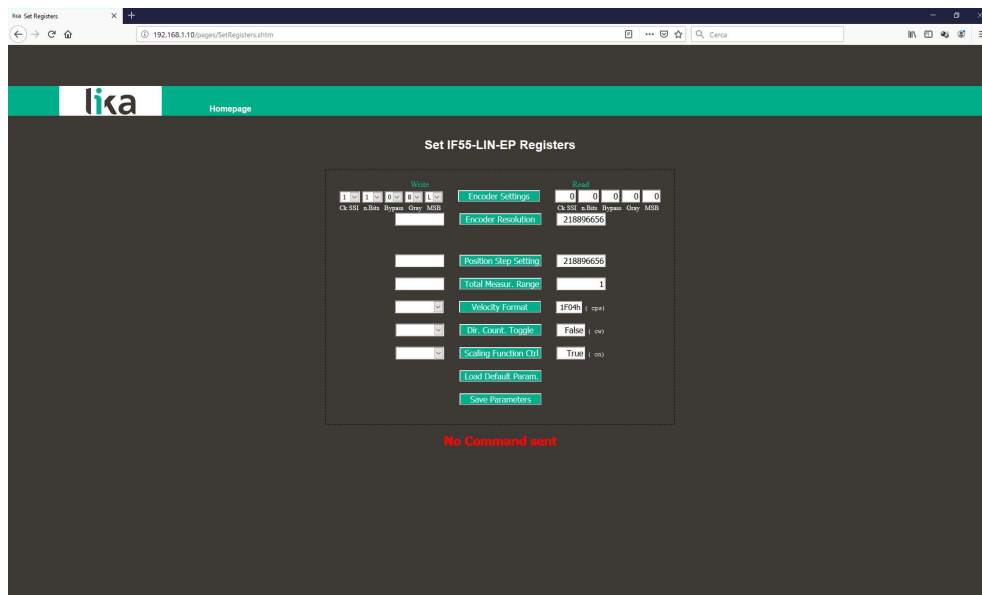

Figure 56 - Set IF55-LIN-EP Registers page (converter for linear encoders)
The **64-01-10 Position Step Setting (L)** attribute is currently set to "218896656" (see the **READ** box in the third line of the Figure 56 above). To change the set value enter a suitable value in the corresponding **WRITE** box of the same line and then press the **POSITION STEP SETTING** button to confirm.